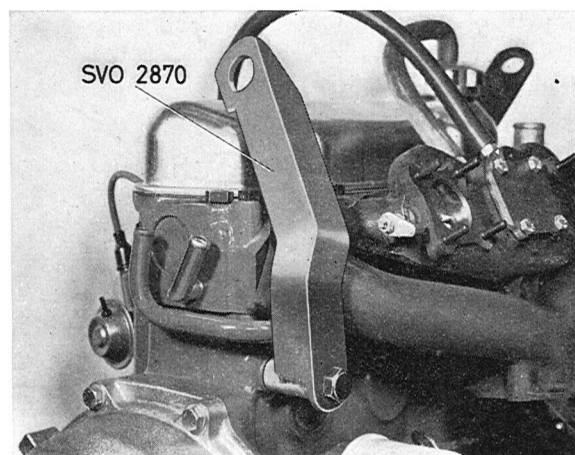
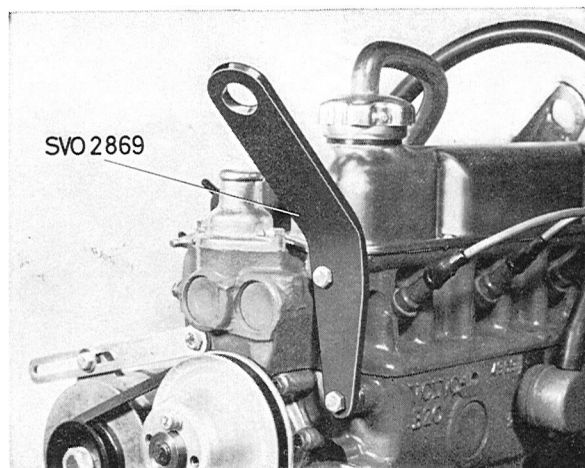

Fig. 2-16. Lifting lug on engine rear end
Fig. 2-17. Lifting lug on engine front end
11. Fit lifting arm 2867 to the front end of the engine as shown in Fig. 2-17 and lifting arm 2870 to the engine rear end as shown in Fig. 2-16.
21. Install lifting lug 2870 on engine rear end and lifting lug 2869 on the engine front end, see Figs. 2-16 and 2-17.